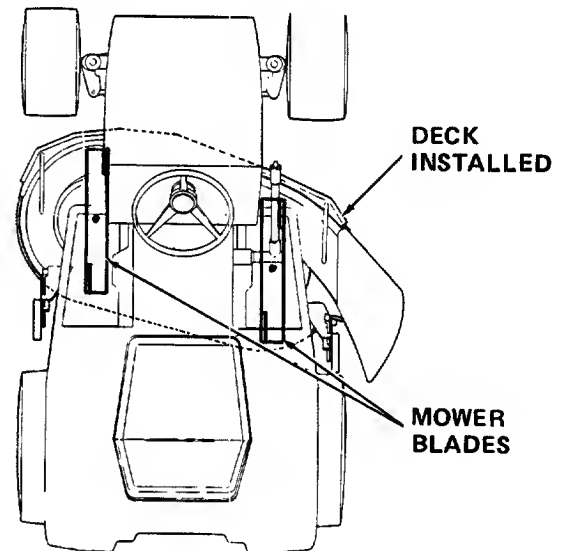

Figure 31
4. Position the mower blades so that the ends of each blade face the front and rear of the tractor. (Refer to Figure 31.)